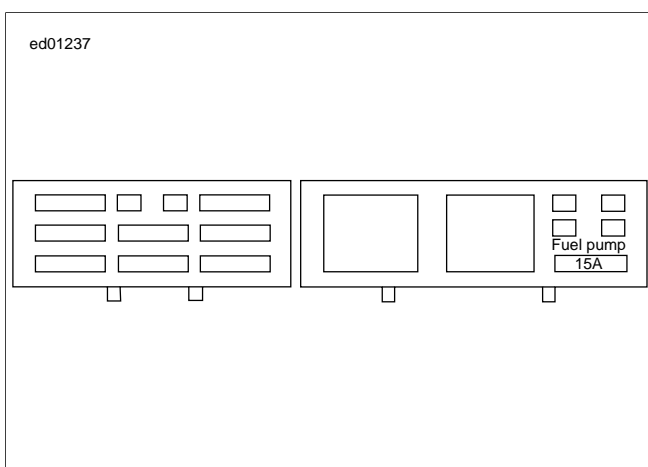

Figure 4-32. Fuel Pump Fuse: View from Top
See Figure 4-32. The fuel pump fuse is located on the relay/fuse block behind the left side cover. The fuel pump can be turned on by applying battery voltage to the fuel pump fuse.
- a. See Figure 4-32. Disconnect the fuel pump fuse from the fuse block.